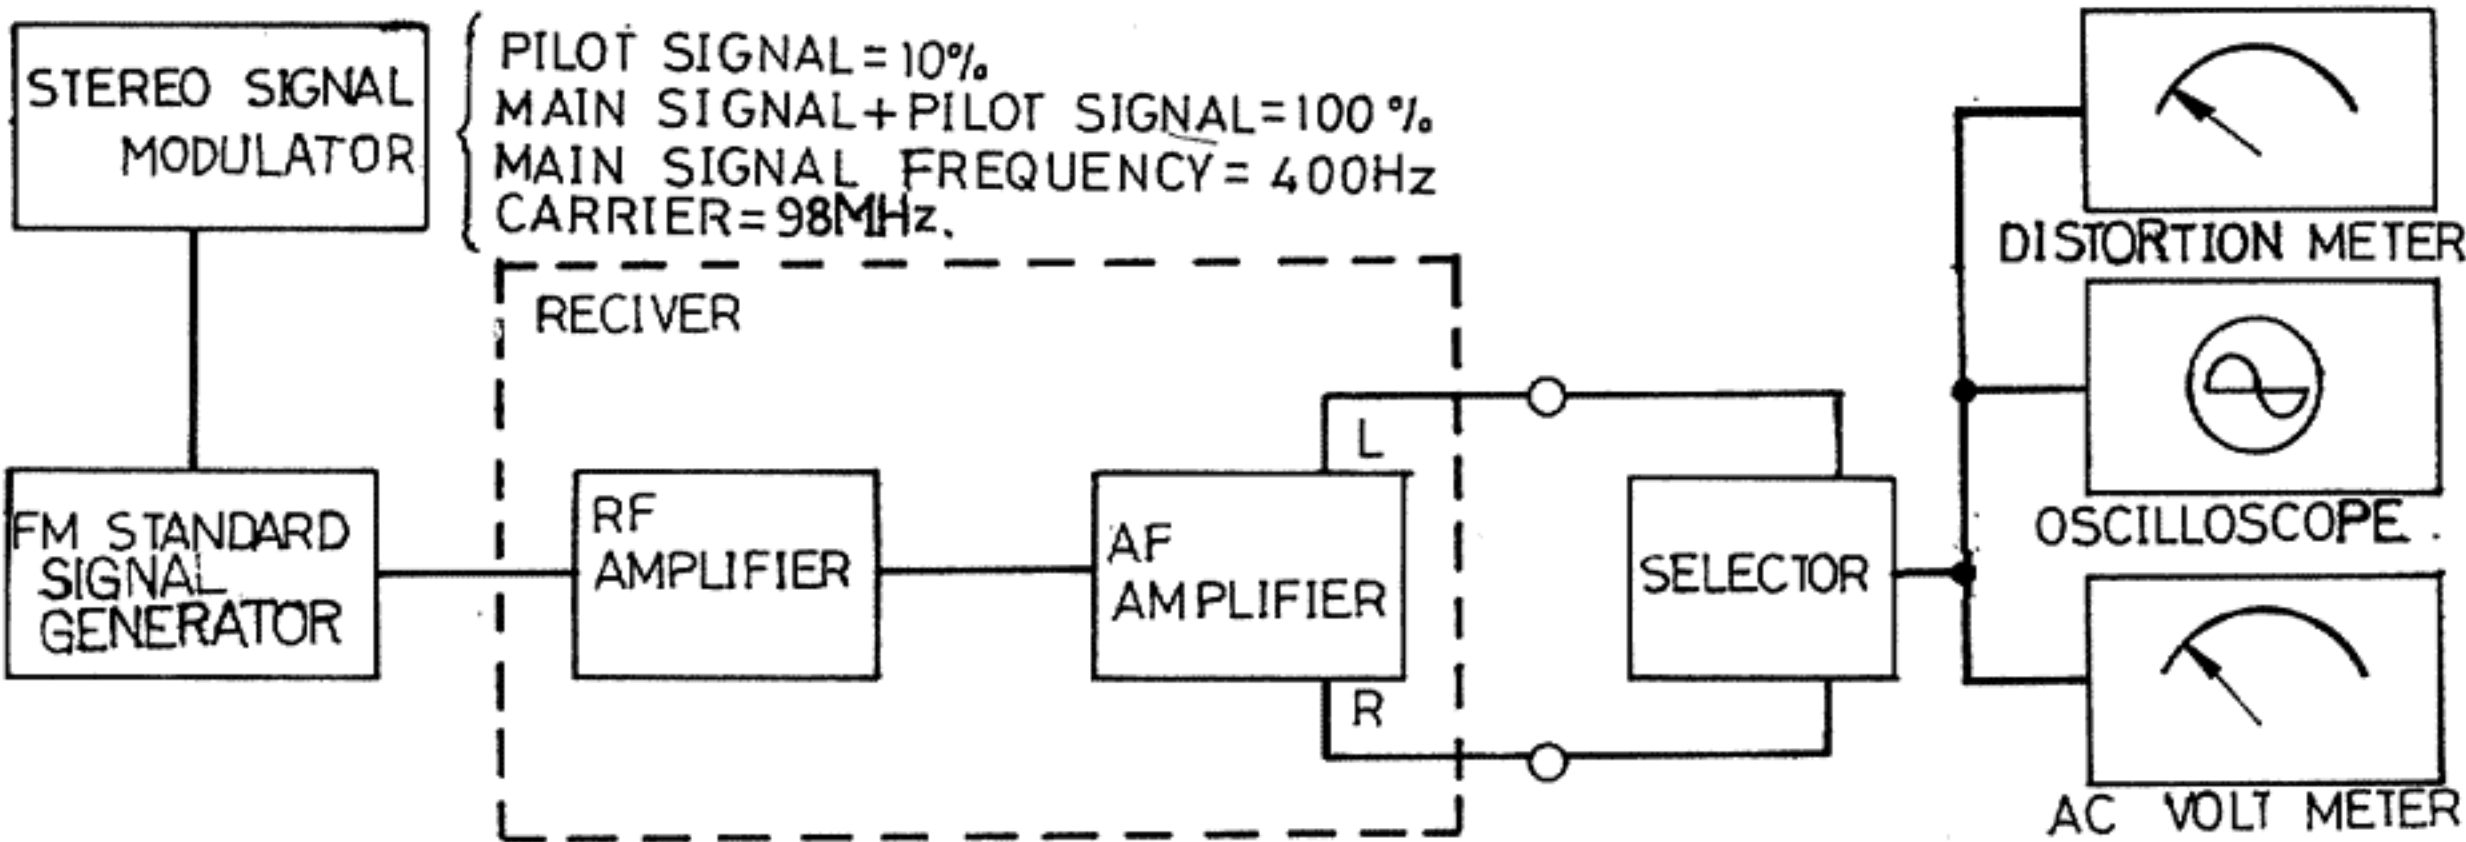

Fig. 12
4. A Connect V. T. V. M., Oscilloscope & Destortion meter to speaker termind thru. the SELFCTOR (See Fig. 12)